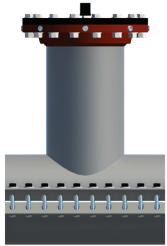

Figure C-1
**C.1)** Inspect the valve body to ensure no damage has occurred during shipment or storage (see Figure C-1).